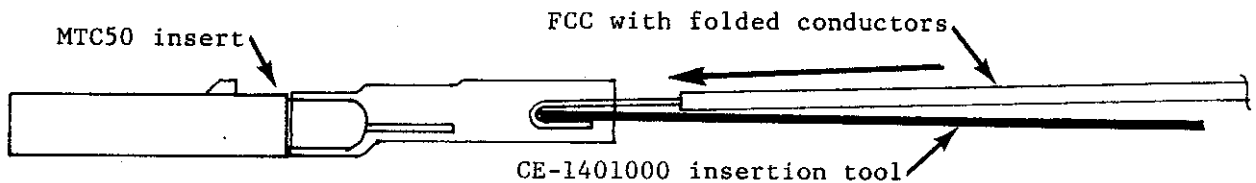

Figure 5-3. Use of Cable Insertion Tool
- o Cable insertion tool CE-1401000 must be used to aid cable insertion (Figure 5-3).